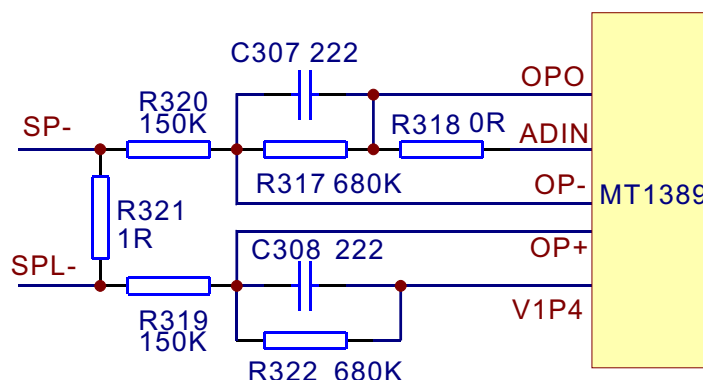

Figure 3.2.6.1 Main axis control circuit diagram
1. Main axis control circuit is shown as in the following figure 3.2.6.1: